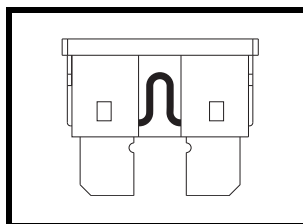

Figure 27. Working Fuse
2. Examine the fuse to be sure it is blown. See **figures 27 and 28**.